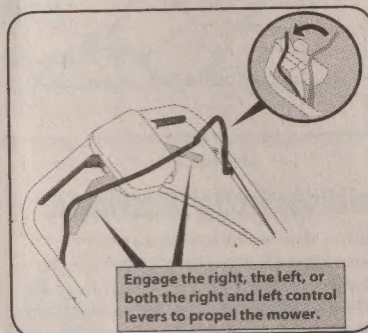

Figure 3-2
1. Once the engine is running and while continuing to hold the blade control down, squeeze either (or both) drive controls against the upper handle to propel mower. See Figure 3-2.